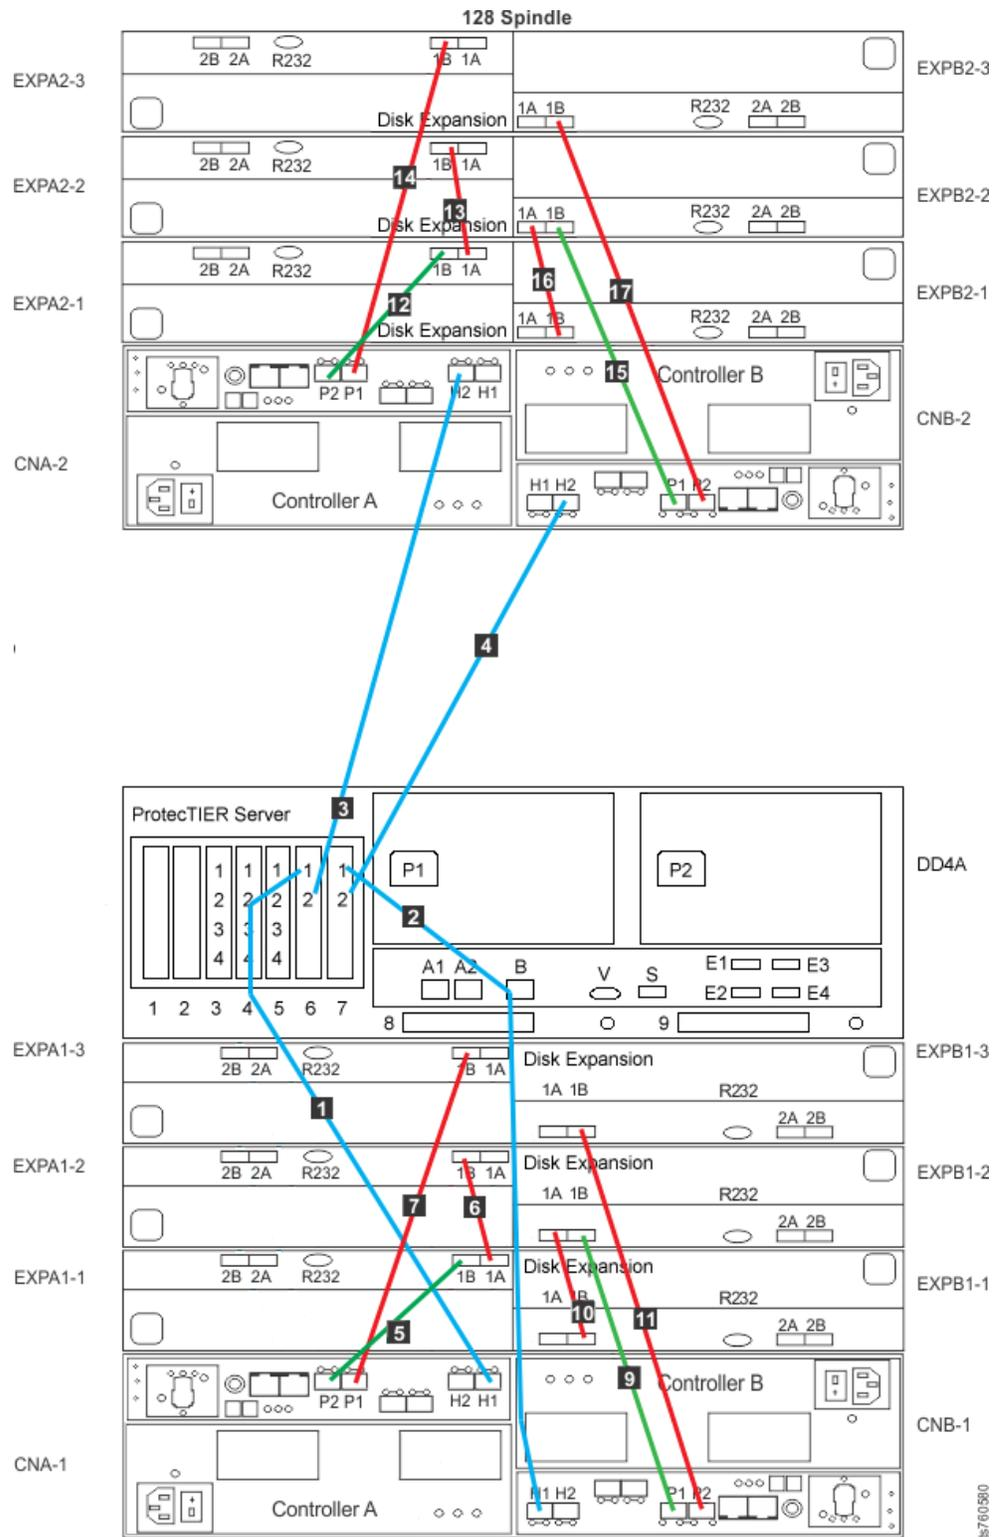

Figure 19. Fibre channel connections for stand-alone OpenStorage configuration
2. Use Figure 19 on page 47 to verify that the recommended disk components are cabled correctly. (Connections to the customer's host network not shown in this figure).